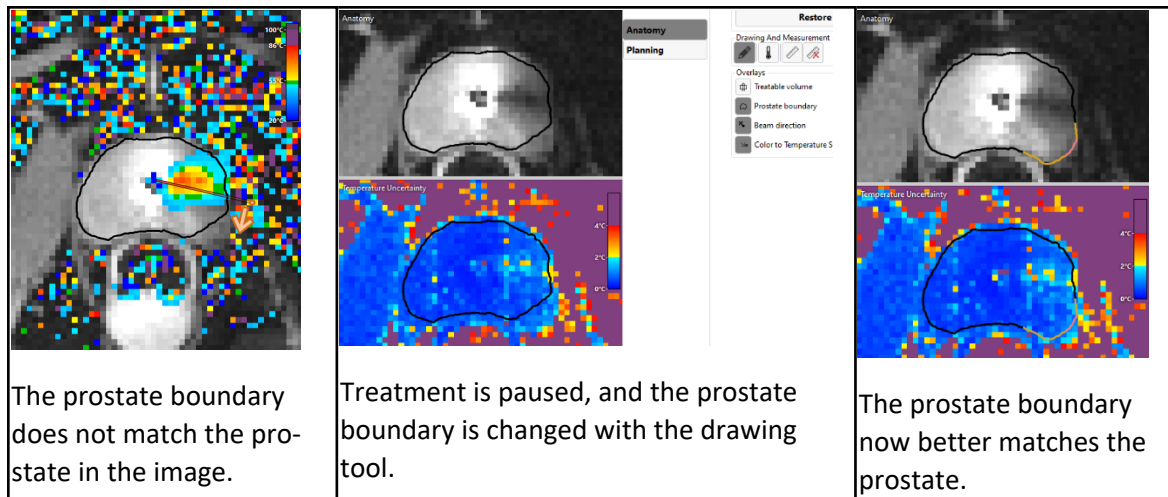

Figure 53: Editing the prostate boundary
3. Click the drawing tool. The TDC displays a new pane showing the prostate boundary contour and the temperature uncertainty for the selected slice (*Figure 53*).